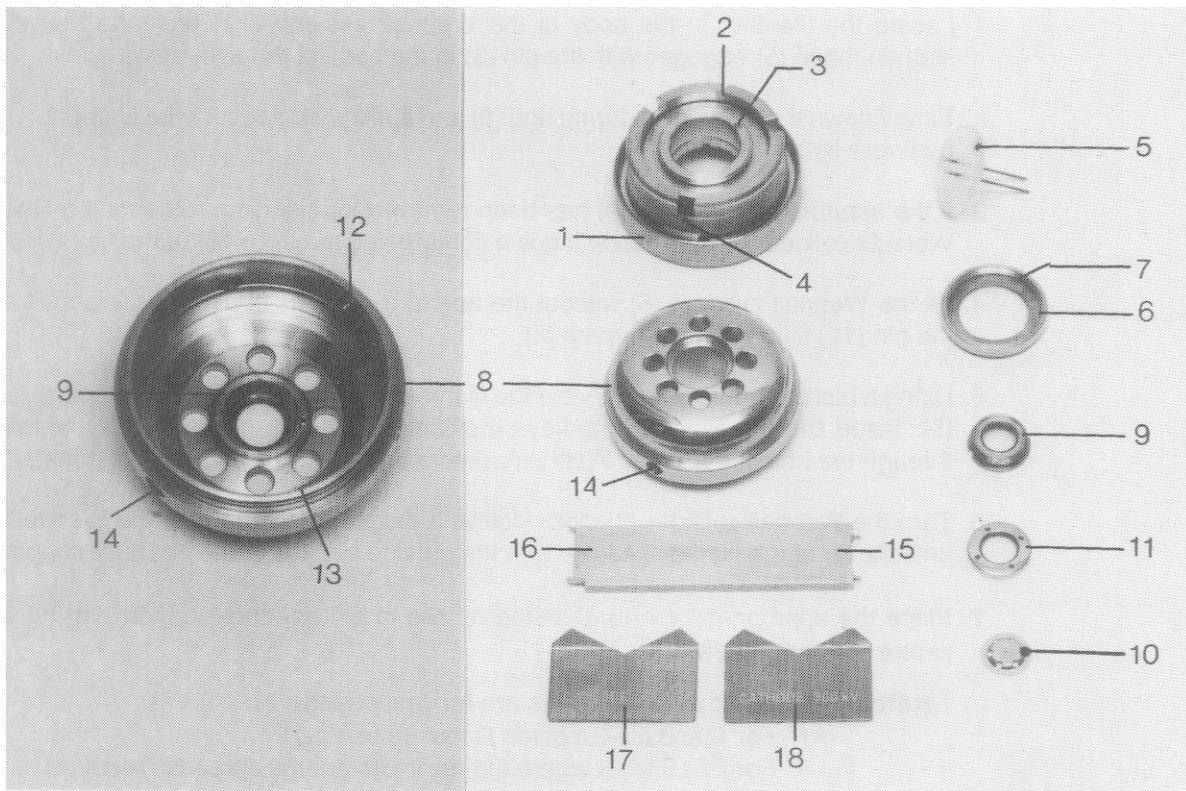
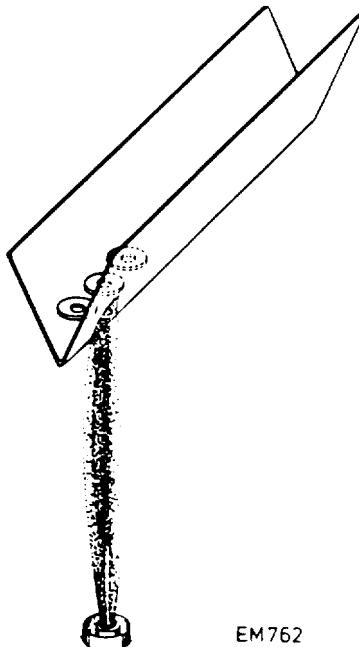

Fig. 5.1, Wehnelt assembly - Component parts and key for mounting and dismounting the aperture
Fig. 5.2, Cleaning apertures
a) **Wehnelt cylinder and aperture (Fig. 5.1, items 8 and 10)**
1. Remove the Wehnelt aperture-securing ring (11) and support ring (9) together with the Wehnelt aperture (10).
2. Remove the spring ring (13).
b) **Wehnelt main assembly (1):** filament-securing ring (6) and spring washer (7); aperture support (9) and securing ring (11); Wehnelt cylinder spring ring (13) (Fig. 5.2)
Method 3 (see Fig. 5.2)